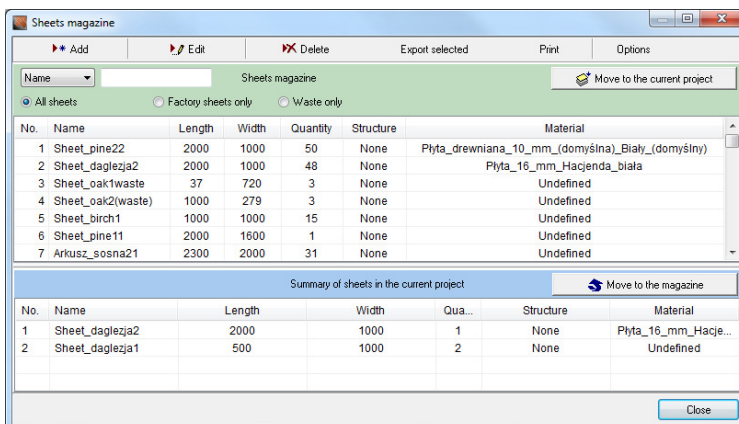

Fig. 43 – sheets magazine window
- 2)  **Sheets magazine [F10]** - opens the window of the magazine of sheets (Fig. 43).